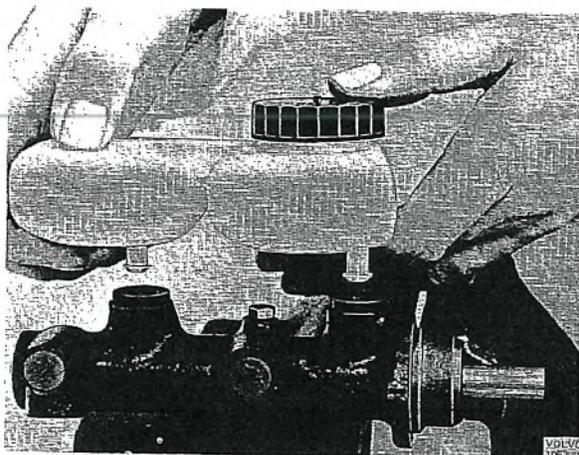

Fig. 5-45. Removing container
1. Fix the flange of the master cylinder firmly in a vice, see Fig. 5-45.